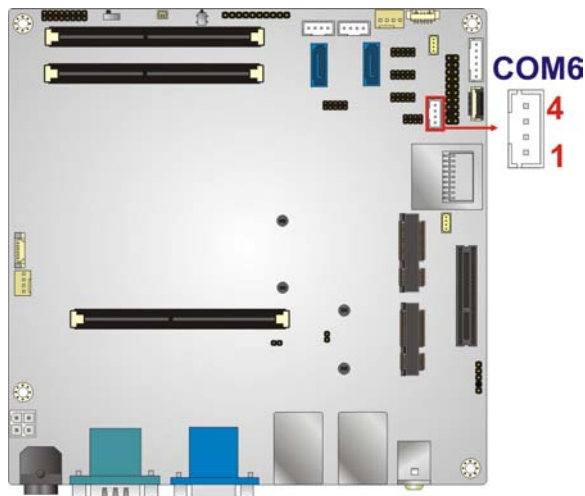

Figure 3-17: RS-422/485 Connector Location
- CN Location: See **Figure 3-17**